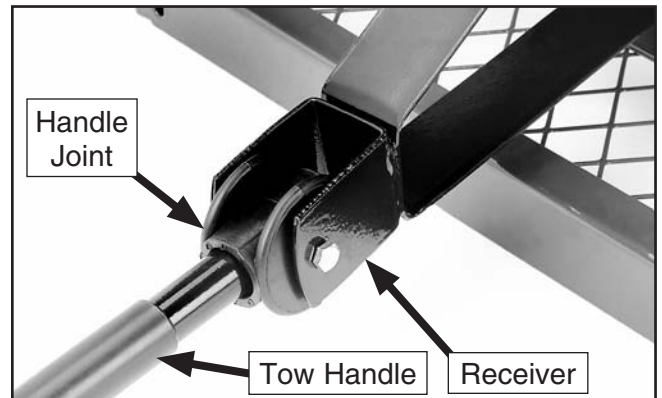

Figure 4. Tow handle.
7. Insert the handle into the handle joint, then insert the joint into the receiver. Secure the assembly in place with the M8-1.25 x 60 hex bolt, 8mm flat washer, and M8-1.25 locking nut (**Figure 4**).